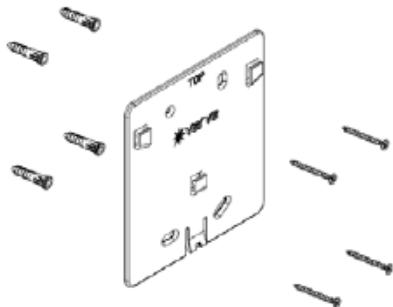

Figure 1
1. Use included anchors and screws to attach the mounting plate to the wall. The mounting plate is designed to be leveled as it is installed (refer to Figure 1, the mounting plate is labeled TOP).